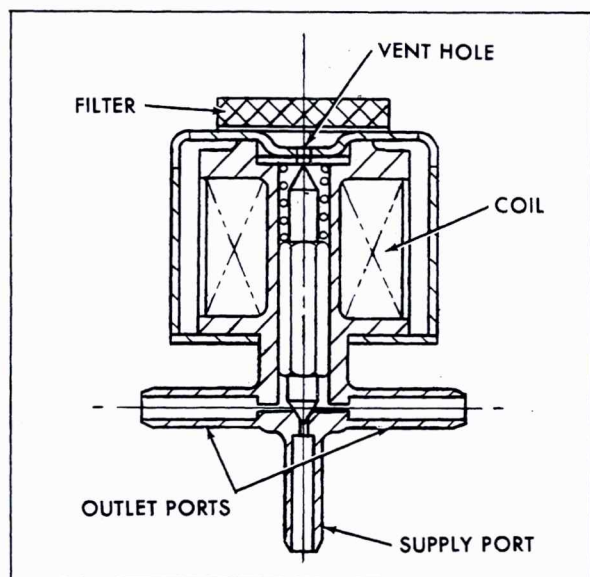

Fig. 1-15 Solenoid Vacuum Valve
d. Solenoid Vacuum Valve (Fig. 1-15)